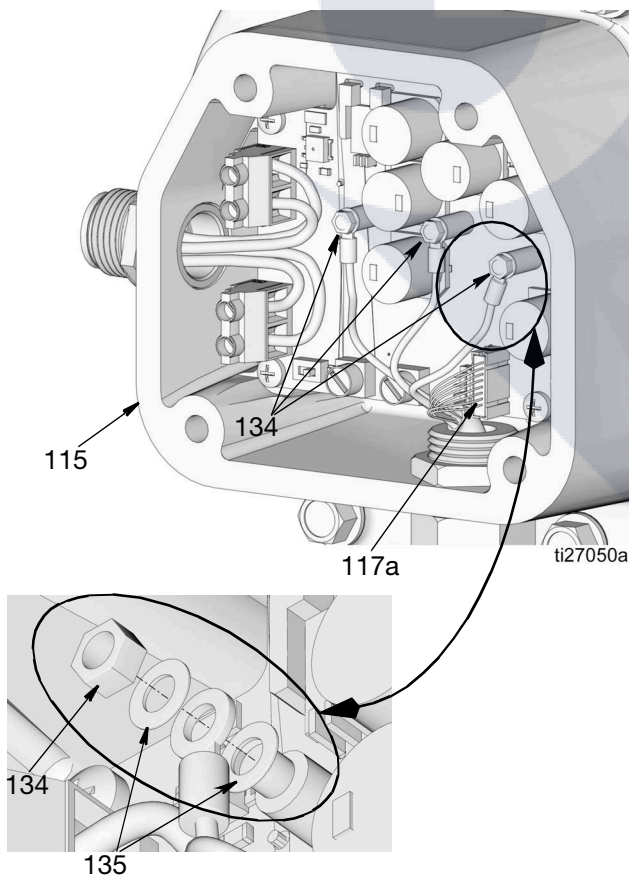

FIG. 56
6. Remove nuts (134) as shown in FIG. 56. Remove washers (135) and motor wires from terminals. Save these parts to use them for reassembly.
7. Disconnect sensor cable (117a) from motor control board (FIG. 56).